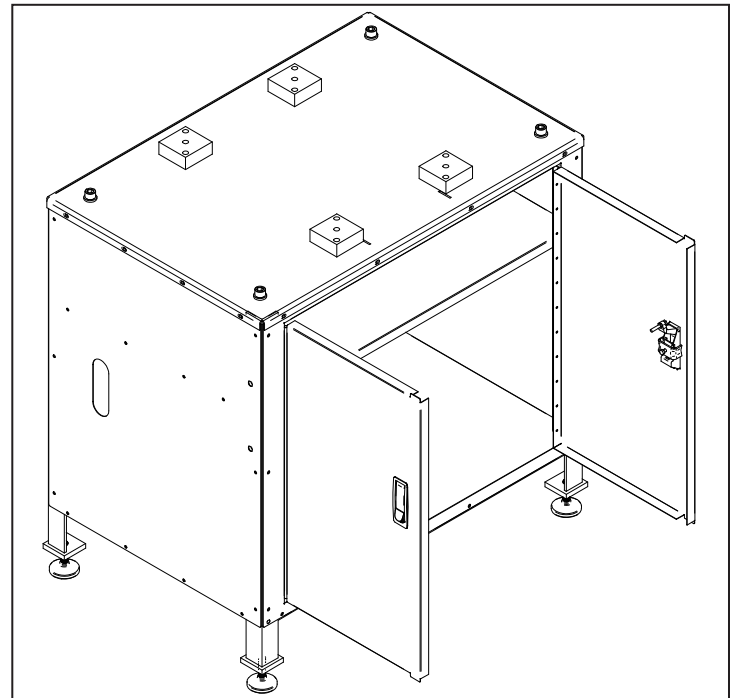

Figure 11
18. Return Stand to upright position; attach one Door Lock to each door (see **Figure 11**).